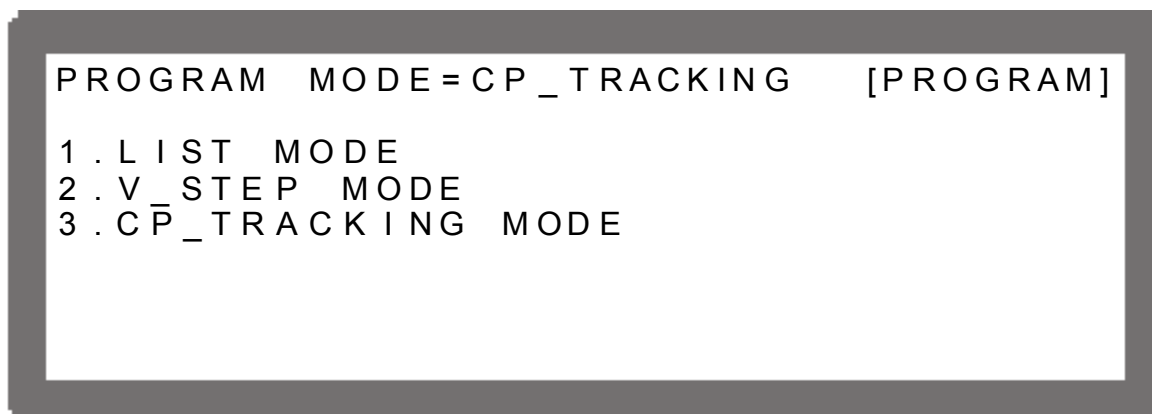

Figure 4-1
2. It displays PROGRAM options as Figure 4-1 shows.
5. Press “” to return to Figure 4-1.
4. Press "EXIT" to return to Figure 4-1.